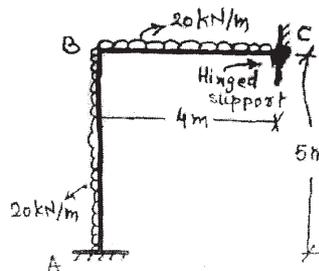

Fig. 10
- Q10)** Analyse the frame shown in Figure 10 by Stiffness Matrix Method and draw BMD and SFD. Assume flexural rigidity EI constant for all members. The support 'C' is hinged. [16]